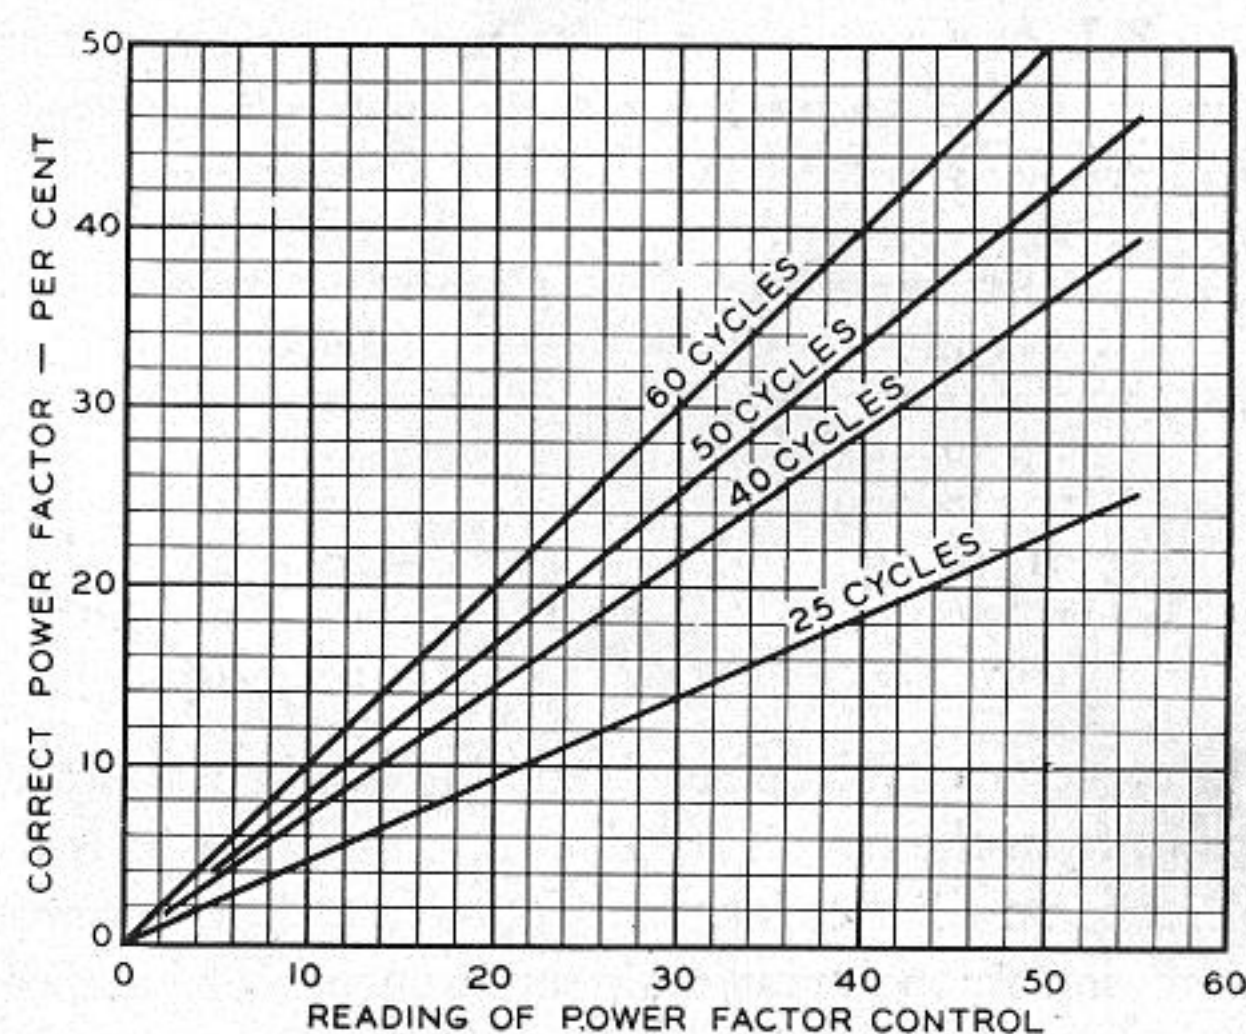

FIG. 5—POWER FACTOR CALIBRATION
- (2) Throw switch at top left of panel to "5 ma d-c."
- (3) Throw switch at top right of panel to "hi volts d-c."
- (4) Plug CF-27 separate conductor test leads into "bridge" jacks. Then connect clips across capacitor under test.
- (5) Turn "Voltage Gain" control clockwise to turn Exam-eter on. Slowly adjust to a convenient deflection and permit instrument to warm-up for 1 minute.
- (6a) Rotate main bridge control slowly until maximum deflection is obtained on meter. Readjust voltage control as necessary if pointer goes off scale. Read capacitance from calibrated scale and multiply as indicated under (1) above to obtain actual capacitance.
- (6b) For electrolytic capacitors, balance as in (6a). Then adjust power-factor control for maximum deflection. Readjust main control, then p-f control for maximum deflection, as necessary. Read capacitance as in (6a) and read power-factor directly from calibrated scale. For line frequencies other than 60 cycles, refer to Fig. 5 for the necessary correction.